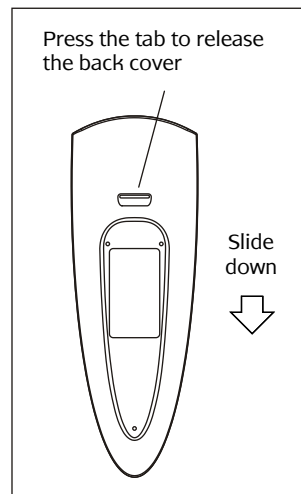

Figure 10 – Removing the back cover
- 2) Press the tab and slide the back cover down to release (refer to Figure 10).